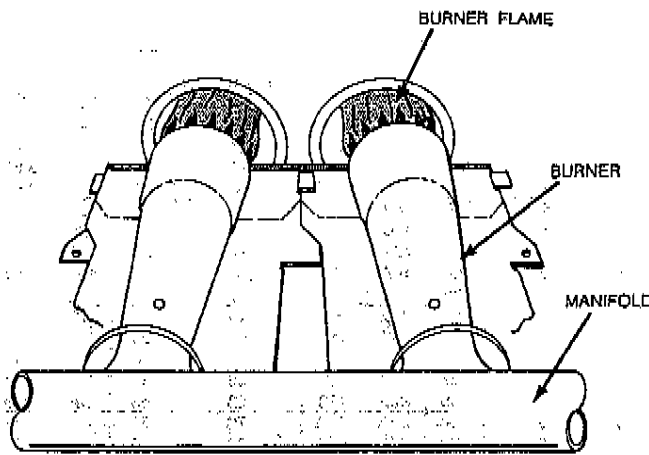

Fig. 17—Burner Flame
- When correct input is obtained, replace gas control regulator adjustment caps. Main burner flame should be clear blue, almost transparent. (See Fig. 17.)